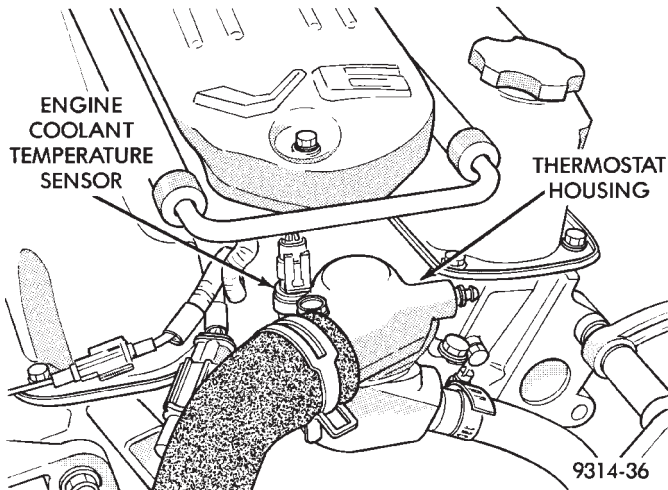
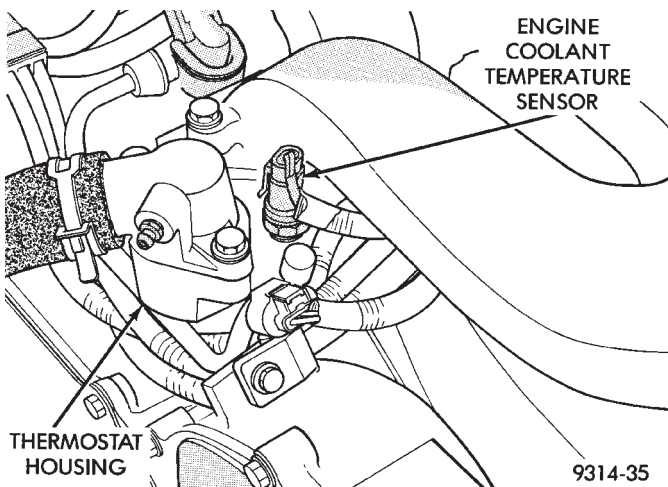

Fig. 57 Engine Coolant Temperature Sensor Location—3.3L
Fig. 58 Engine Coolant Temperature Sensor Location—3.5L
- (1) With the key off, disconnect wire harness connector from coolant temperature sensor (Fig. 57) or (Fig. 58).
- (2) Connect a high input impedance (digital) volt-ohmmeter to terminals A and B. The ohmmeter should read as follows:
- (3) Test the resistance of the wire harness between the PCM 40-way connector terminal 26 and the sensor harness connector. Refer to Group 8W, Wiring diagrams for circuit information. If the resistance is greater than 1 ohm, repair the wire harness as necessary.